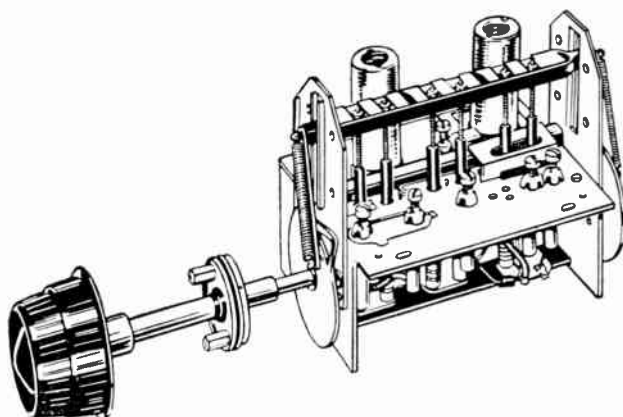

Fig. 11. Permeability tuner for vhf television receivers. Slugs move up or down in the coils when the tuning shaft is turned
**Permeability Tuning for Television.** Continuous manual tuning of television receivers can also be obtained by an arrangement for moving powdered-iron cores inside the tuning coils, as in Fig. 11. Here the only troubles are mechanical, since there are no switch contacts in the entire tuner.